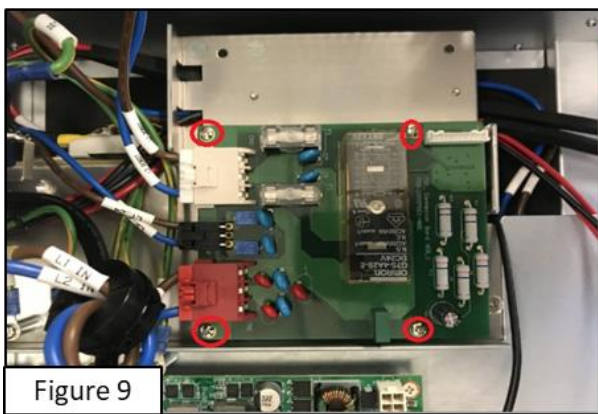

Figure 9
- Refer to the previous steps to disassemble the Relay Board (as shown in Figure 9).